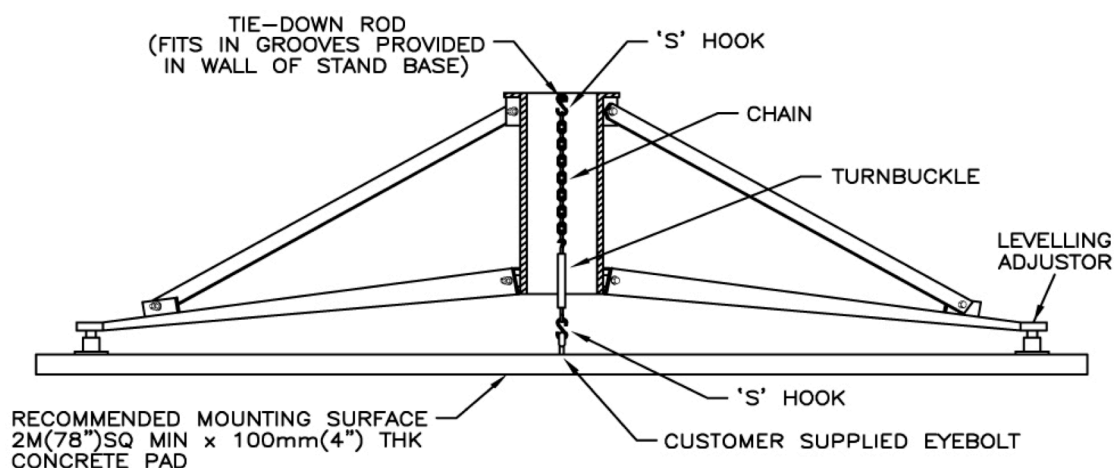

Figure 3.6: Securing the Tripod
6. Use the Tripod 'tie-down kit' to secure the tripod against movement due to accidental bumping or high winds. See Figure 3.6.